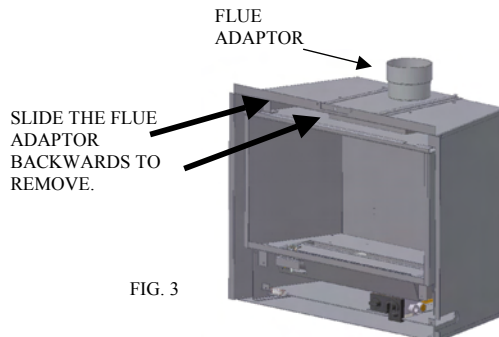

FIG. 3
3. Remove the two screws of the flue adaptor and slide it out of the rails. (FIG. 3)